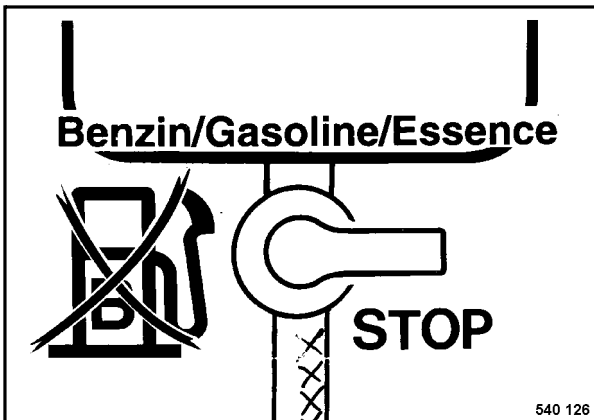

Fig. 3
- Turn the fuel shut-off valve (Fig. 3) to position STOP (closed).